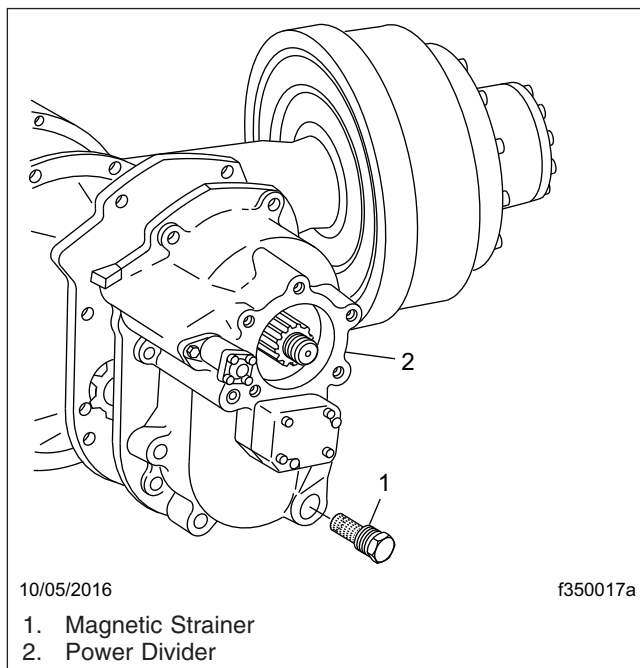

Fig. 11, Dana Spicer Tandem-Drive Axle Magnetic Strainer
- 4.1 Remove the magnetic strainer from the power divider cover. See Fig. 11.